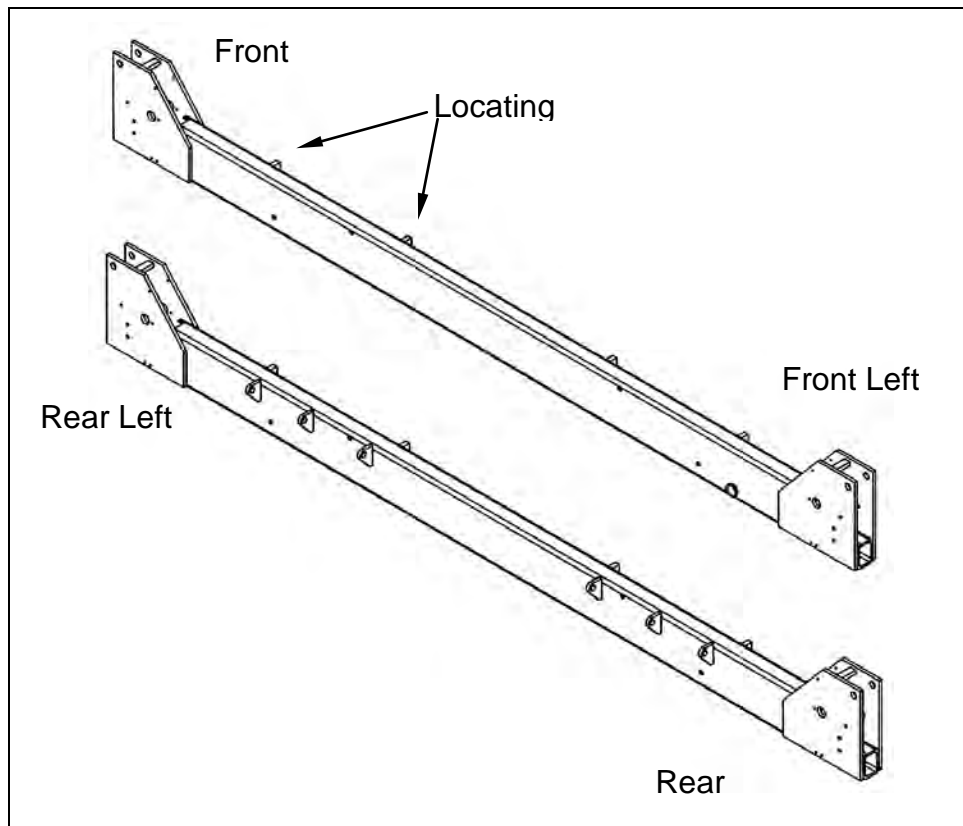

Figure 1. Front and rear crossmembers
2. The rear crossmember has three ears for attaching the approach ramps. There are 2 locating tabs on each side of the crossmembers for positioning the decks between the crossmembers (see Figure 1).